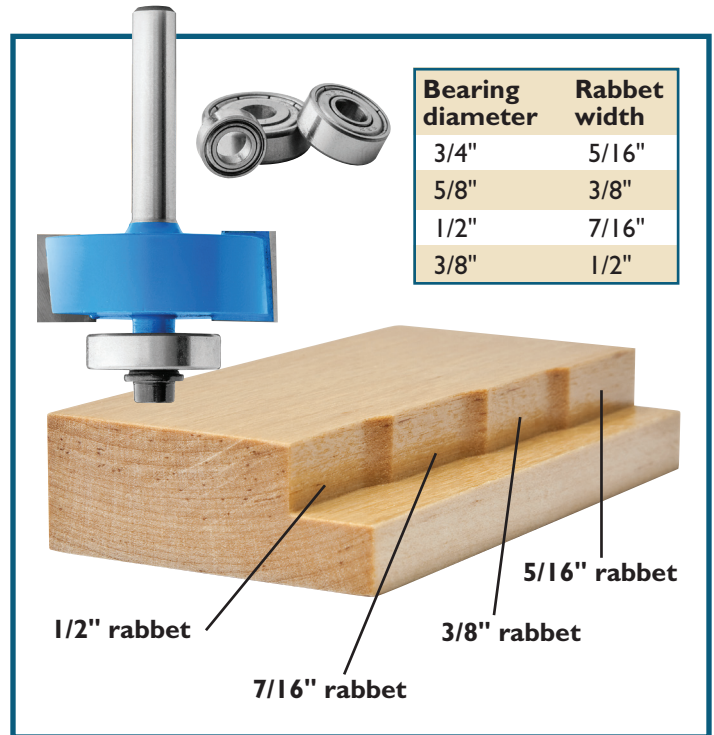

Fig. 1
2. Select the appropriate guide bearing to produce that rabbet. Refer to Fig. 1.